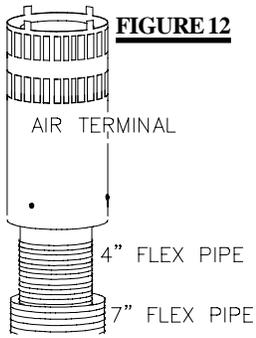

FIGURE 12
3. Repeat using 7" diameter aluminum flexible liner. **FIGURE 12**.